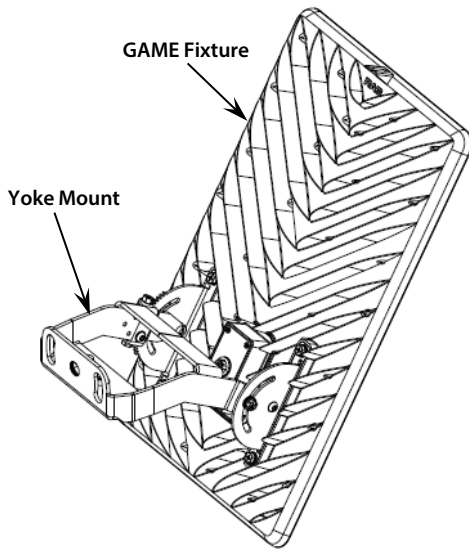

Fig: 1 Yoke Mount Details
1. The **YOKE MOUNT** on the Fixture can be removed and used as a template for marking the mounting holes (*Fig. 1*)